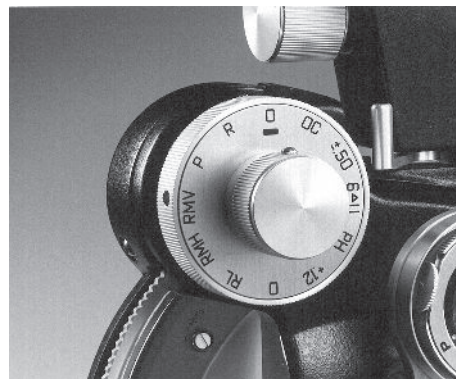

Figure TM-7 Auxiliary Lens Scale and Lens Knob
1. The Auxiliary Lens Dial is controlled by turning the Auxiliary Lens Knob. The Phoropter provides a selection of 10 auxiliary lenses plus two open apertures. Refer to Figure TM-7.